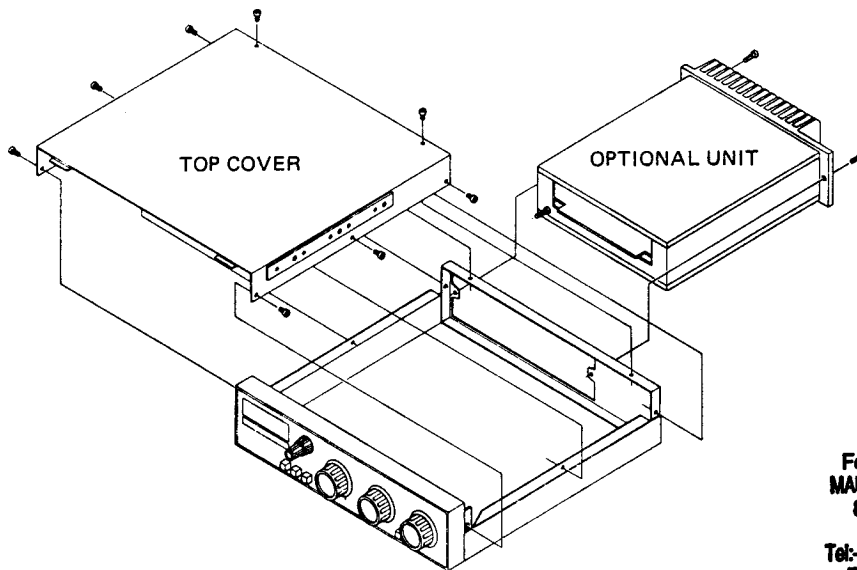

Figure 1
1. Remove the eight screws affixing the top cover of the FTV-707, and remove the cover (Figure 1).